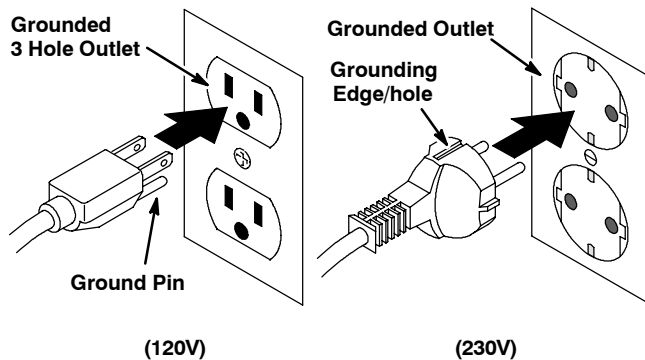

FIG. 18
6. Then plug charger's power supply cord into a grounded wall outlet (Figure 18).